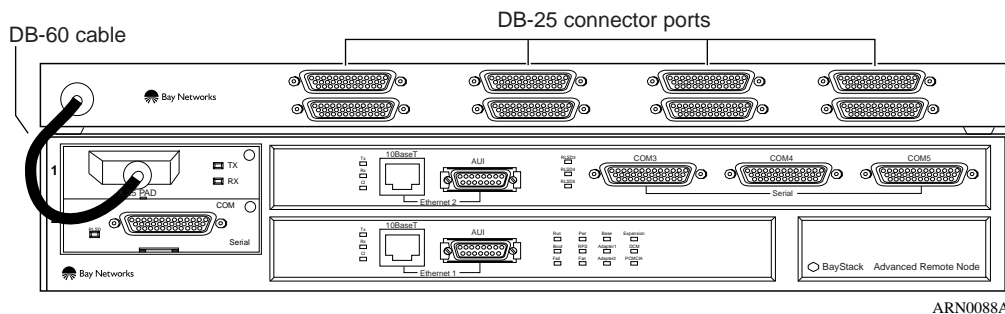

Figure 2. X.25 PAD Breakout Box Connected to ARN
- Place the box on top of the ARN (Figure 2). Attach the rubber feet that came in the upgrade kit to the four raised areas on the bottom of the breakout box.
Connect the DB-60 plug connector on the breakout box cable to the receptacle connector on the X.25 PAD adapter module (refer to \(Figure 2\)).